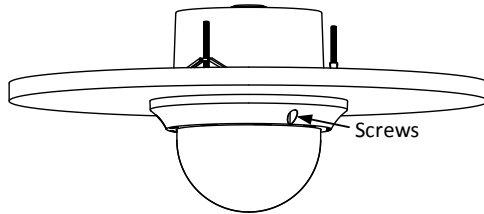

Figure 1-24 Install the Lower Dome
7. Secure the lower dome to the back box with three screws as shown in Figure 1-24.